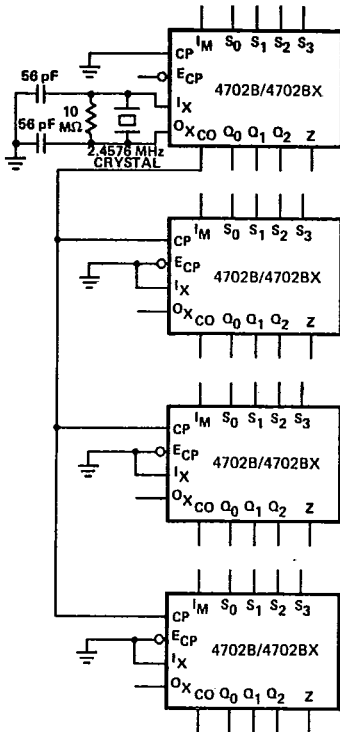
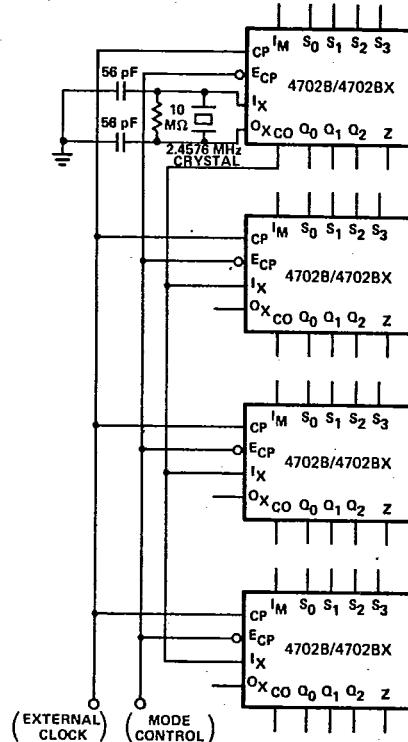

Fig. 5
Fig. 6
**Clock Expansion** — One 4702B/4702BX can control up to eight output channels. For more than eight channels, additional bit rate generators are required. These bit rate generators can all be run from the same crystal or clock input. Figure 5 shows one possible expansion scheme. One 4702B/4702BX is provided with a crystal. All other devices derive their clock from this master. Figure 6 shows a different scheme where the master clock output feeds into the IX input of all slaves and all ECP inputs are normally held HIGH. This scheme retains the reset feature and the selection between two different clock sources of the basic 4702B/4702BX circuit.